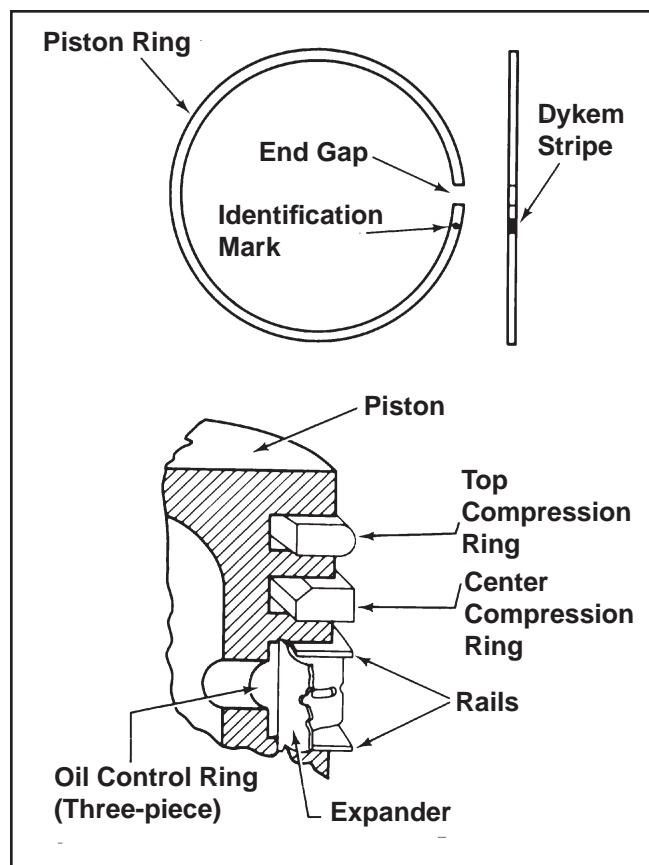

Figure 9-12. Piston Ring Installation.
**NOTE:** Rings must be installed correctly. Ring installation instructions are usually included with new ring sets. Follow instructions carefully. Use a piston ring expander to install rings. See Figure 9-11. Install the bottom (oil control) ring first and the top compression ring last. Refer to Figure 9-12.